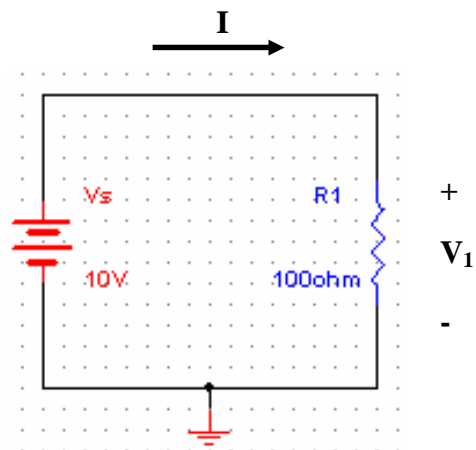

Figure 3: Verifying Ohm's Law
2. Build the circuit given in Figure 3. Set  $V_s = 10V$  and  $R_1=100\Omega$ . Click **Simulation Switch** to run analysis. Record voltage ' $V_1$ ' across resistor  $R_1$  by connecting a multimeter in parallel to it. Record the value of current ' $I$ ' flowing through  $R_1$  by connecting another multimeter in series to  $R_1$ . Note down the values in Table 3. From the voltage current readings verify Ohm's law  $V_1=R_1 I$ . Considering multimeter reading as reference, calculate % error.